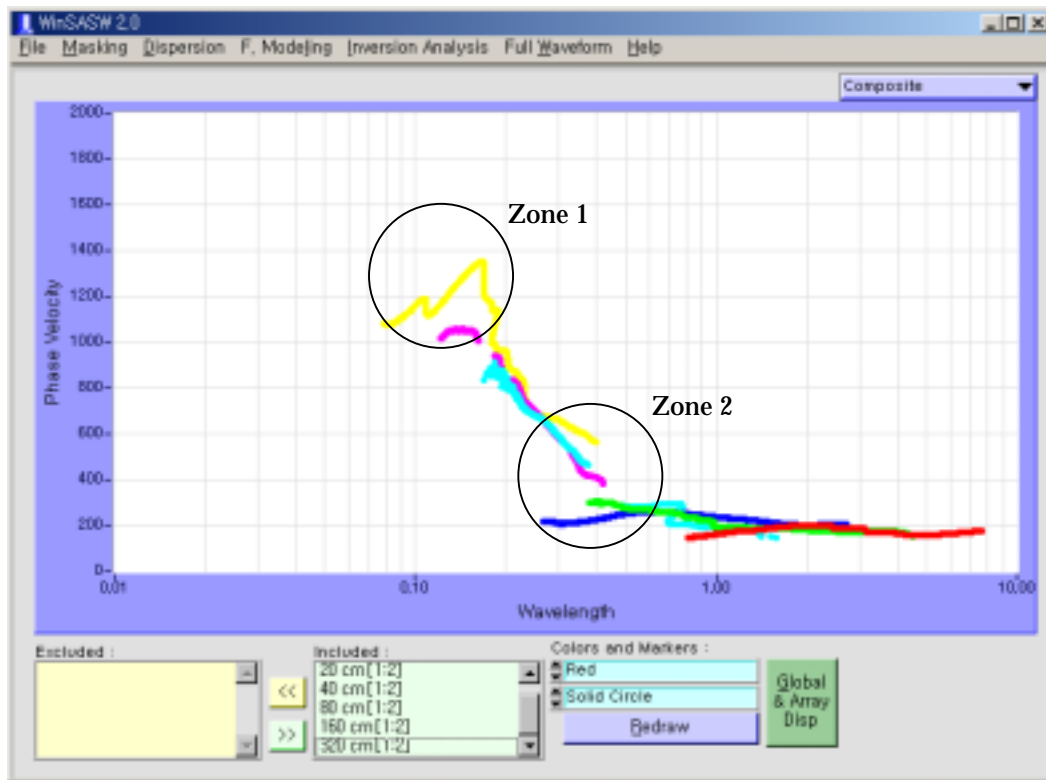
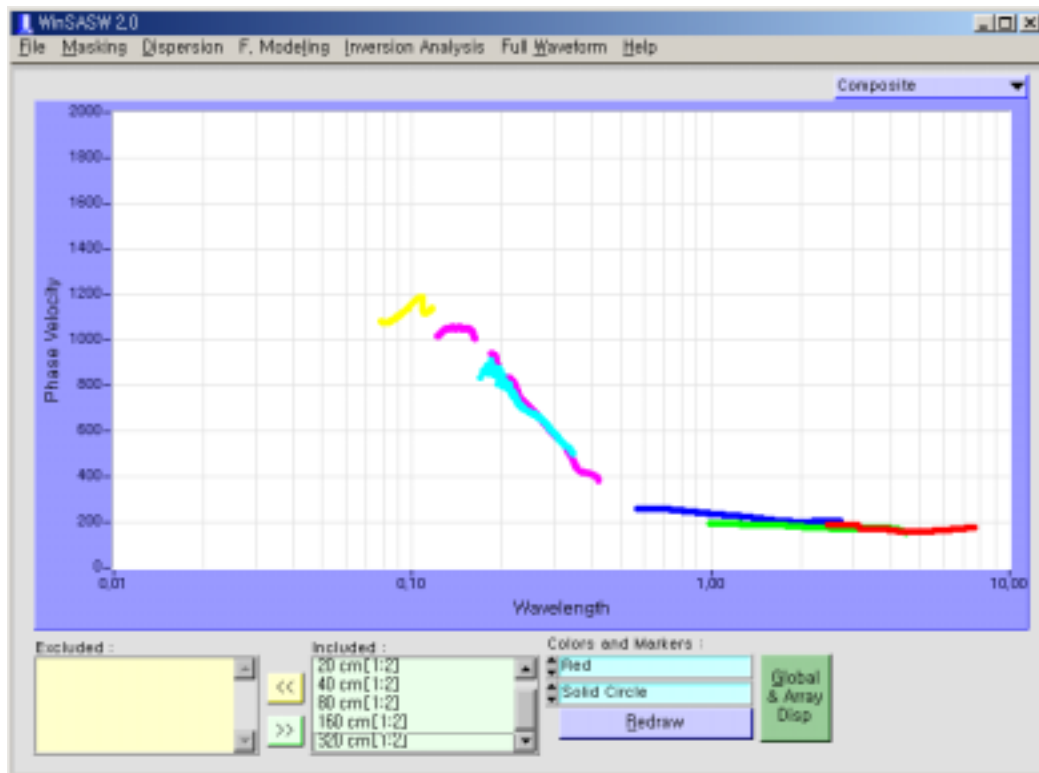

Fig. 3 Typical Dispersion Curves Contaminated by Higher Modes of Stress Waves
Fig. 4 One Example of Dispersion Curve for the Successful Inversion Analysis
In case of a pavement system, there are two zones contaminated by higher modes of the stress waves, as shown in Fig. 3. Zone 1 comes from the measurements using small receiver spacings typically similar to the pavement thickness. It is believed that zone 1 is attributed to the reflected body waves at the interface between the pavement layer and the underlying soil layer. Zone 2 is also attributed to the contrast of two layers, and the phase-velocities corresponding to the underlying soil layers become dominant. Therefore, in the interactive masking procedure, you should take these effects into consideration in the determination of the phase-velocity dispersion curve. Fig. 4 is one example to lead to the successful inversion analysis.
- **Smallest Receiver Spacing:** The measurements at the pavement system should incorporate all the essential receiver spacings. One of the important receiver spacings is the shortest one. The shortest receiver spacing should be about half of the expected pavement thickness to estimate the shear-wave velocity of the pavement itself. In case of Fig. 4, the shortest receiver spacing is 0.1 m, which is about the thickness of the pavement system. Since the measurement based on the receiver spacing similar to the pavement system is corrupted by the body-wave reflections, not much information is retrieved from the measurements. Therefore, the 0.05-m receiver spacing should have been included in the measurements.